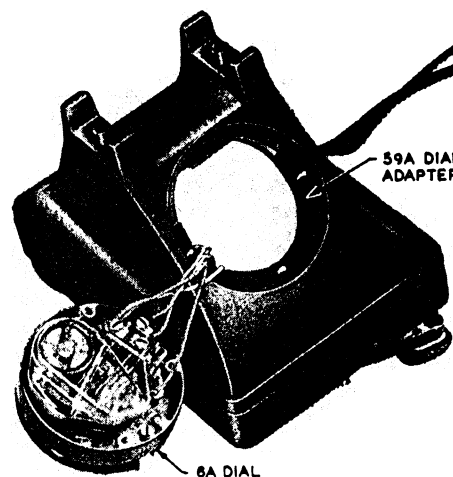
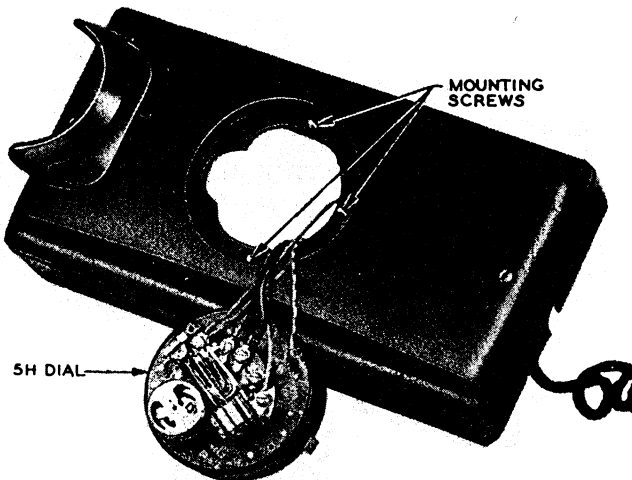

Fig. 18 — Dial Assembly — 302G Telephone Set
Fig. 19 — Dial Assembly — 354C Telephone Set
3.05 Fig. 18 shows the assembly of a 6A dial with a 59A adapter in the 302G telephone set. Fig. 19 shows the assembly of a 5H dial in the 354C telephone set.